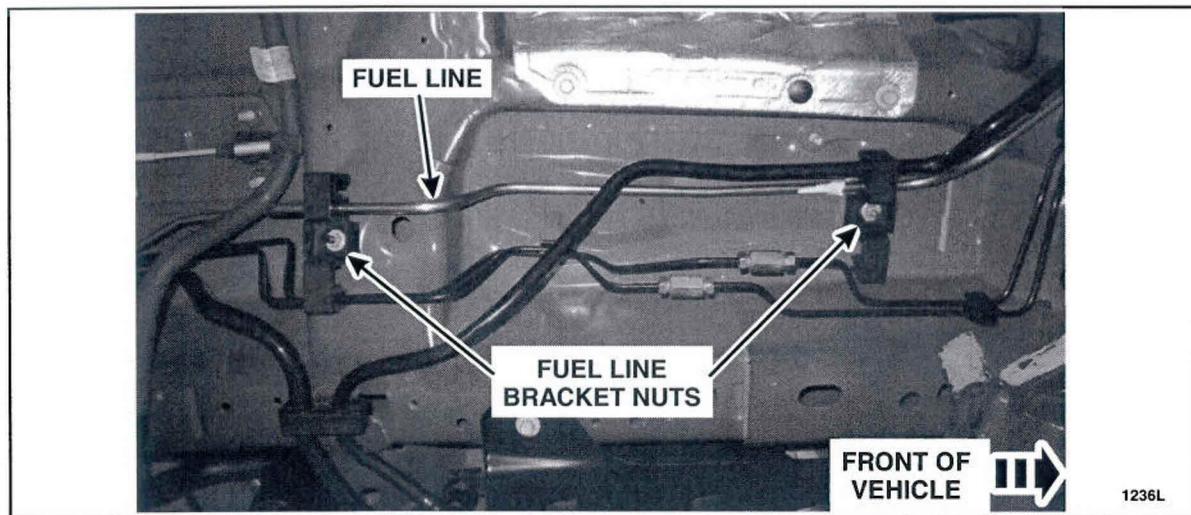

FIGURE 8
13. Remove the two fuel line bracket nuts and remove the fuel line from the brackets. See Figure 8.
3. Install the two fuel line bracket nuts. See Figure 8.